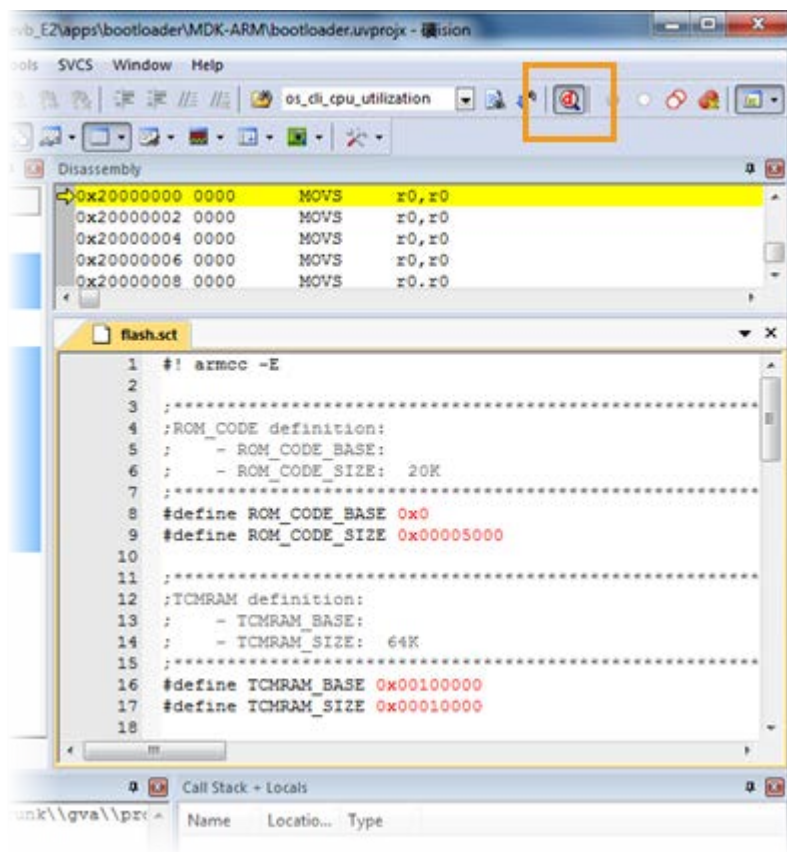

Figure 58. Debugging a project on Keil IDE
- 9) Click **Debug** to start debugging the project, as shown in Figure 58.